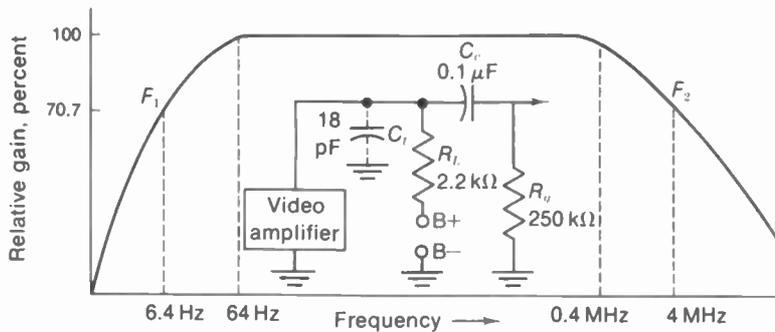

FIGURE 13-20 FREQUENCY RESPONSE WITH SPECIFIC VALUES FOR RC-COUPLED AMPLIFIER.
As shown in Fig. 13-20, the resistance load  $R_L$  makes the response flat over a wide range of middle frequencies. Therefore, an  $RC$ -coupled stage is best for amplifying the wide band of video frequencies with minimum frequency and phase distortion. Audio-transformer coupling would not be suitable for the high video frequencies that correspond to radio frequencies. A video frequency of only 2 MHz is higher than any rf signal in the standard radio broadcast band. This entire band from 535 to 1,605 kHz would occupy only a small part of the video spectrum from 30 Hz to 4 MHz. Coupling with rf transformers would not be suitable for the lowest video frequencies that correspond to audio frequencies.
The examples shown in Figs. 13-20 to 13-24 apply to video amplifiers using either tubes or transistors. However, wideband response for high frequencies is less of a problem with transistor amplifiers because of their relatively low input and output resistances.
**Total shunt capacitance.** The video amplifier gain is down at the high-frequency end because of the shunting effect of capacitances to chassis ground, in parallel with  $R_L$ . All these capacitances add in parallel to provide the total value labeled  $C_t$  in Fig. 13-20. Typical values for  $C_t$  are 15 to 30 pF. This may seem small, but remember that capacitive reactance is inversely proportional to frequency. For the high video frequen-
$R_L$  is in ohms and  $C_t$  in farads to find  $F_2$  in Hz. For the example in Fig. 13-20 with  $R_L$  of 2.2 k $\Omega$  and  $C_t$  of 18 pF,
$R_g$  is in  $M\Omega$  and  $C_c$  in  $\mu F$  to find  $F_1$  in Hz. For the example in Fig. 13-20 with  $0.1 \mu F$  for  $C_c$  and  $0.25 M\Omega$  for  $R_g$ ,
In this example, then, the low-frequency gain is down 30 percent at 6.4 Hz because of the reactance of  $C_c$ . Note that the response curve in Fig. 13-20 shows the gain is flat to  $10 \times F_1 = 64 \text{ Hz}$ .